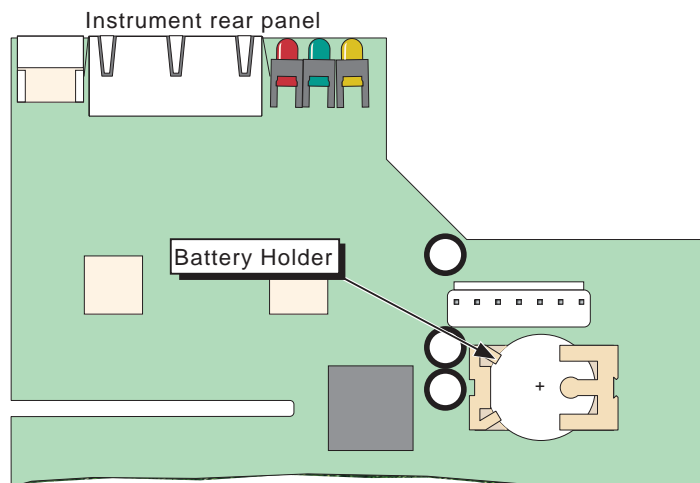
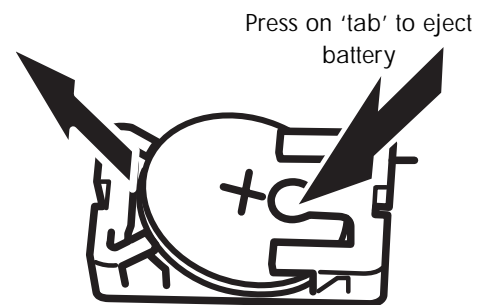

Figure 10.3b Battery location
Figure 10.3c Coin cell eject
3. The power supply unit can now be rotated out of the chassis, giving access to the battery, located on the interconnection PCB (figure 10.3b). Figure 10.3c shows how to eject coin cells.